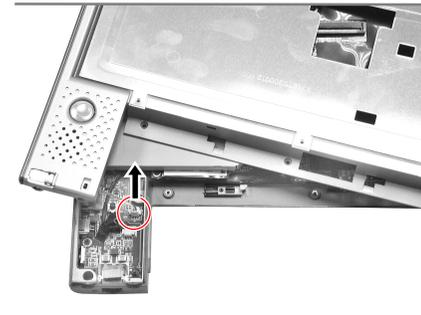

Figure 2-25 Disconnect the cord
7. Lift notebook up carefully. Disconnect the speaker's cord. (Figure 2-25)